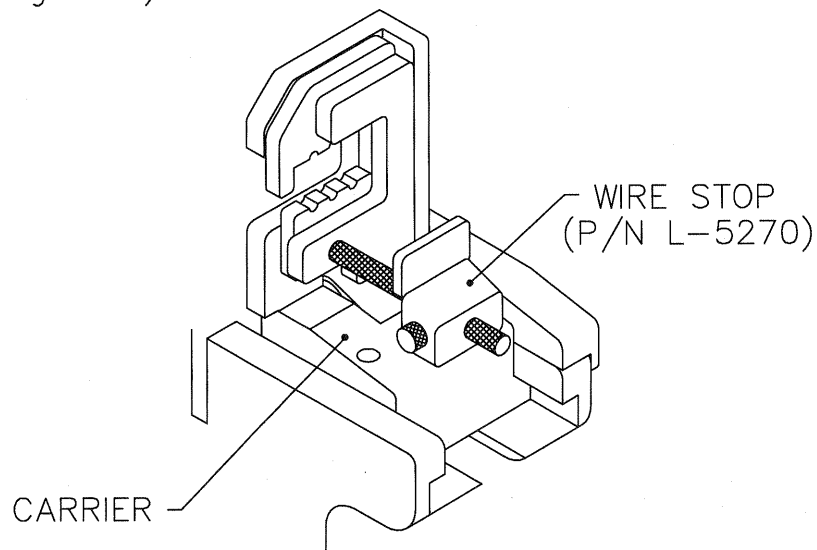

FIGURE 5
3. Slip the plastic wire stop over the standoff and tighten in place to the selected stripping length (see Figure 5).